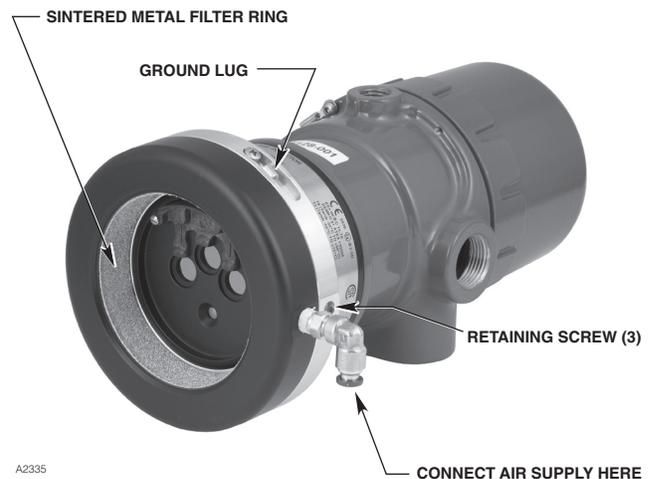

Figure 2—Q1116 Air Shield Attached to X3301 Detector
Air enters the Q1116 through the air inlet and exits through the sintered metal ring (Figure 2). This continuous flow of clean air forms an air buffer around the detector viewing window, reducing the accumulation of contaminants.
2. Place the air shield on the front of the detector. See Figure 2.
In applications where static electricity buildup is a concern (such as powder coating booths), electrically connect the ground lug on the air shield (Figure 2) to the ground lug on the detector housing.